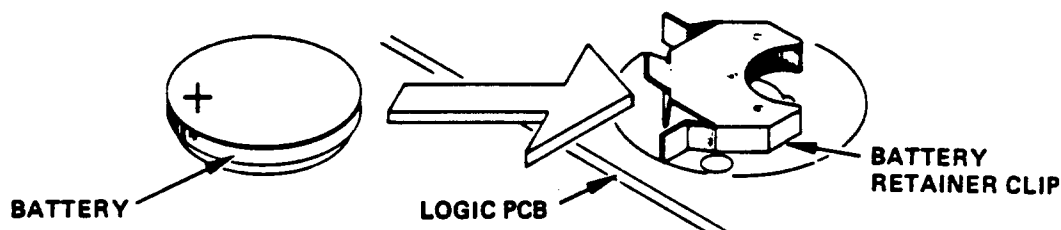

Figure 2-15. Removal of the Logic Board RAM Back-Up Battery
2. To remove or replace the battery, lift the tab of the retainer up, then slide the battery in or out of the retainer clip. See Figure 2-15. Verify that the battery is oriented properly; the + side of the battery must face upward.
3. Disconnect the 4 wires (Pins 1, 2, 3, 4) from the Logic Board Edge Connector (22 position connector) using the terminal extraction tool (refer to Figure 2-15).